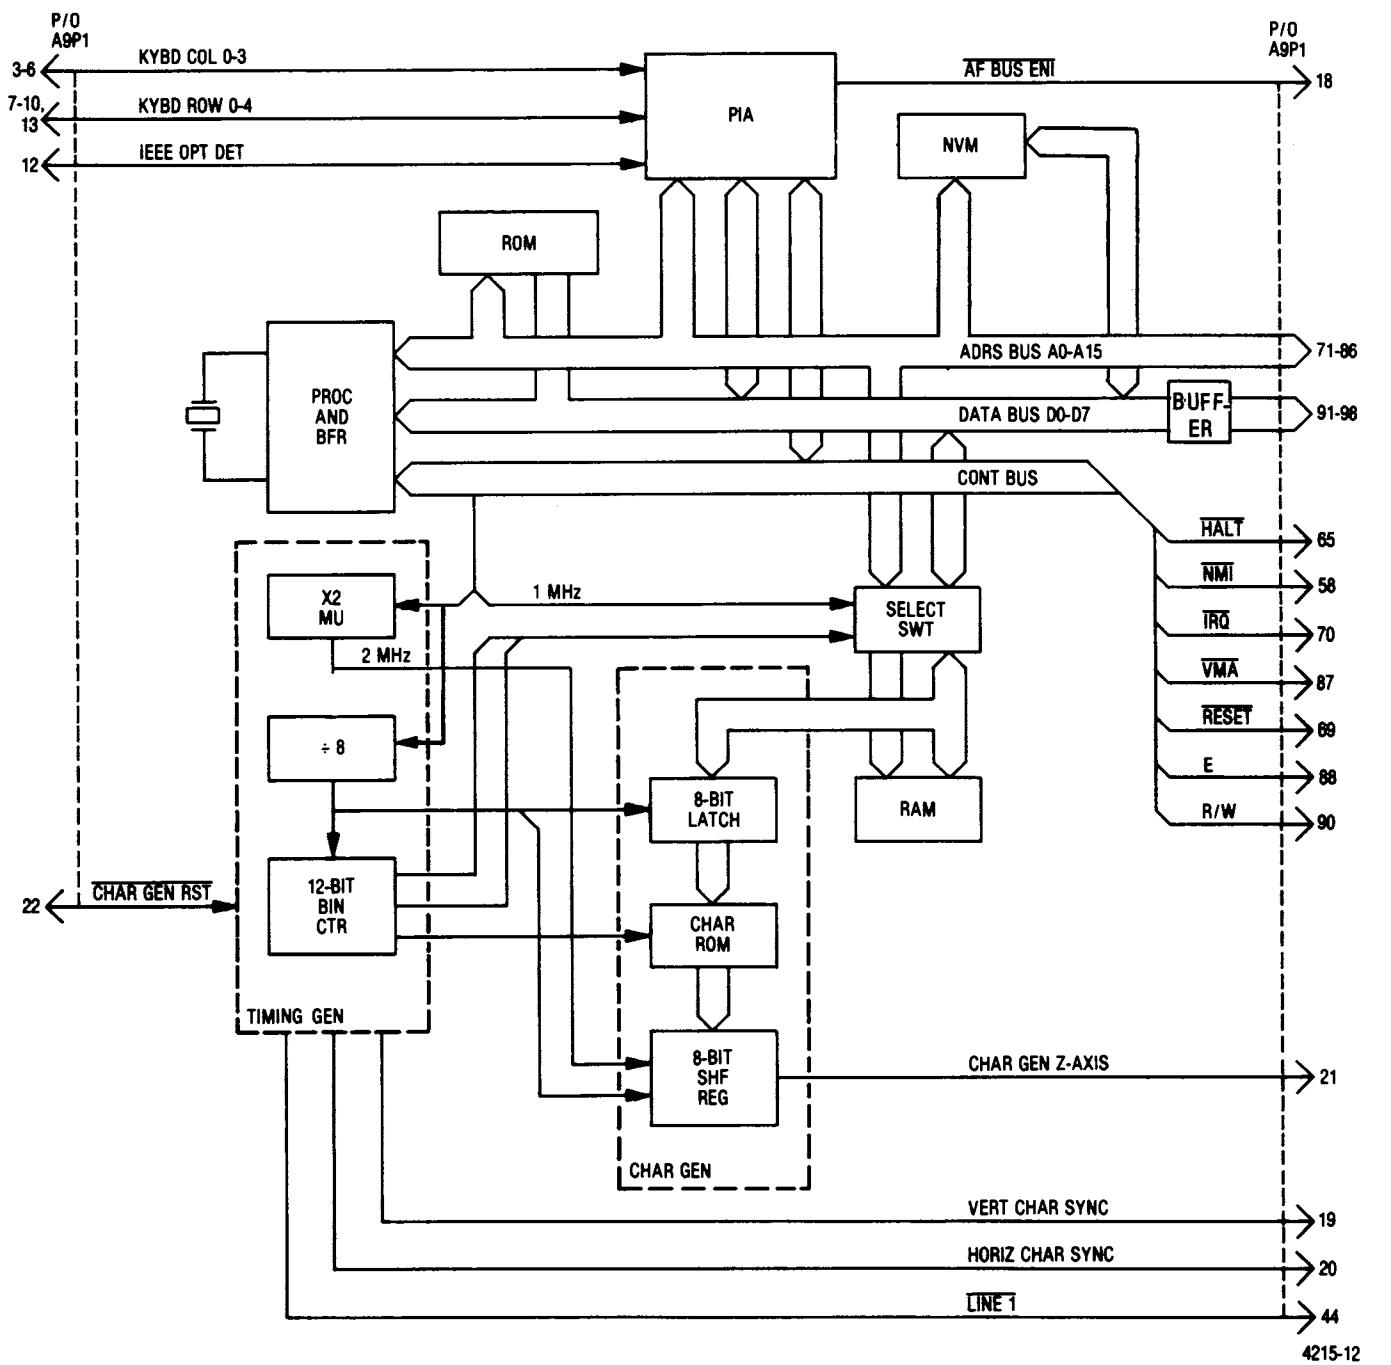

Figure 15-1. Processor Module A9 Block Diagram
**15-1. GENERAL.** The processor module provides primary control and data manipulations for the system. This module contains a processor and buffer, a program memory (ROM), a nonvolatile memory (NVM), a random access memory (RAM), a peripheral interface adapter (PIA), a timing generator, and a character generator. Input and output information is via the peripheral interface adapter and the address, data, and control buses. A block diagram and a schematic diagram of the module is shown in figure 15-1 and figure 15-2, respectively.